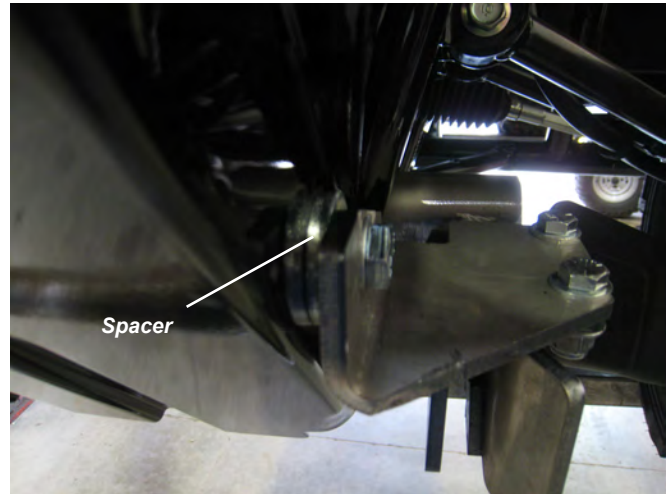

Figure 4
4. A spacer may be required between bumper and support bracket for certain winch mount applications, as shown in Figure 4. Once all hardware is in place, torque per specifications provided on page 2.